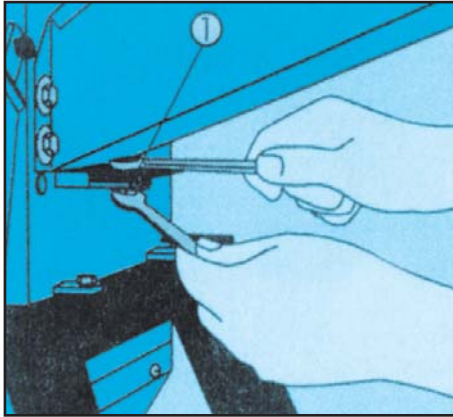

Fig. 1
Periodic tightening of screws as well as the adjustment of the counter cutting blades are essential. The adjustment is done by loosening the hexagon nut (1) as in figures 1 and 3,